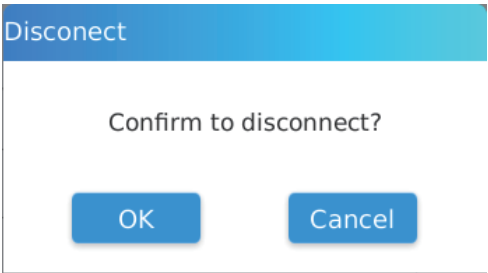

Fig 6.22 Disconnect
- 3) Disconnect the connected network, click the “Connected” button and click “OK” in the pup-up dialog box to disconnect the network, refer to Fig 6.22.